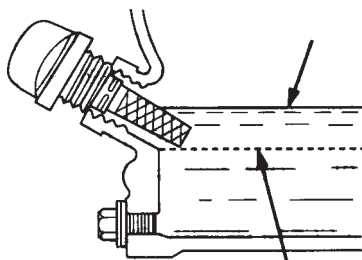

Figure 9. Engine Oil Dipstick (Oil Level)
4. If the engine oil level is low (Figure 9), fill to the edge of the oil filler hole with the recommended oil type (Table 7). See Table 2 for the oil capacity of your type engine.